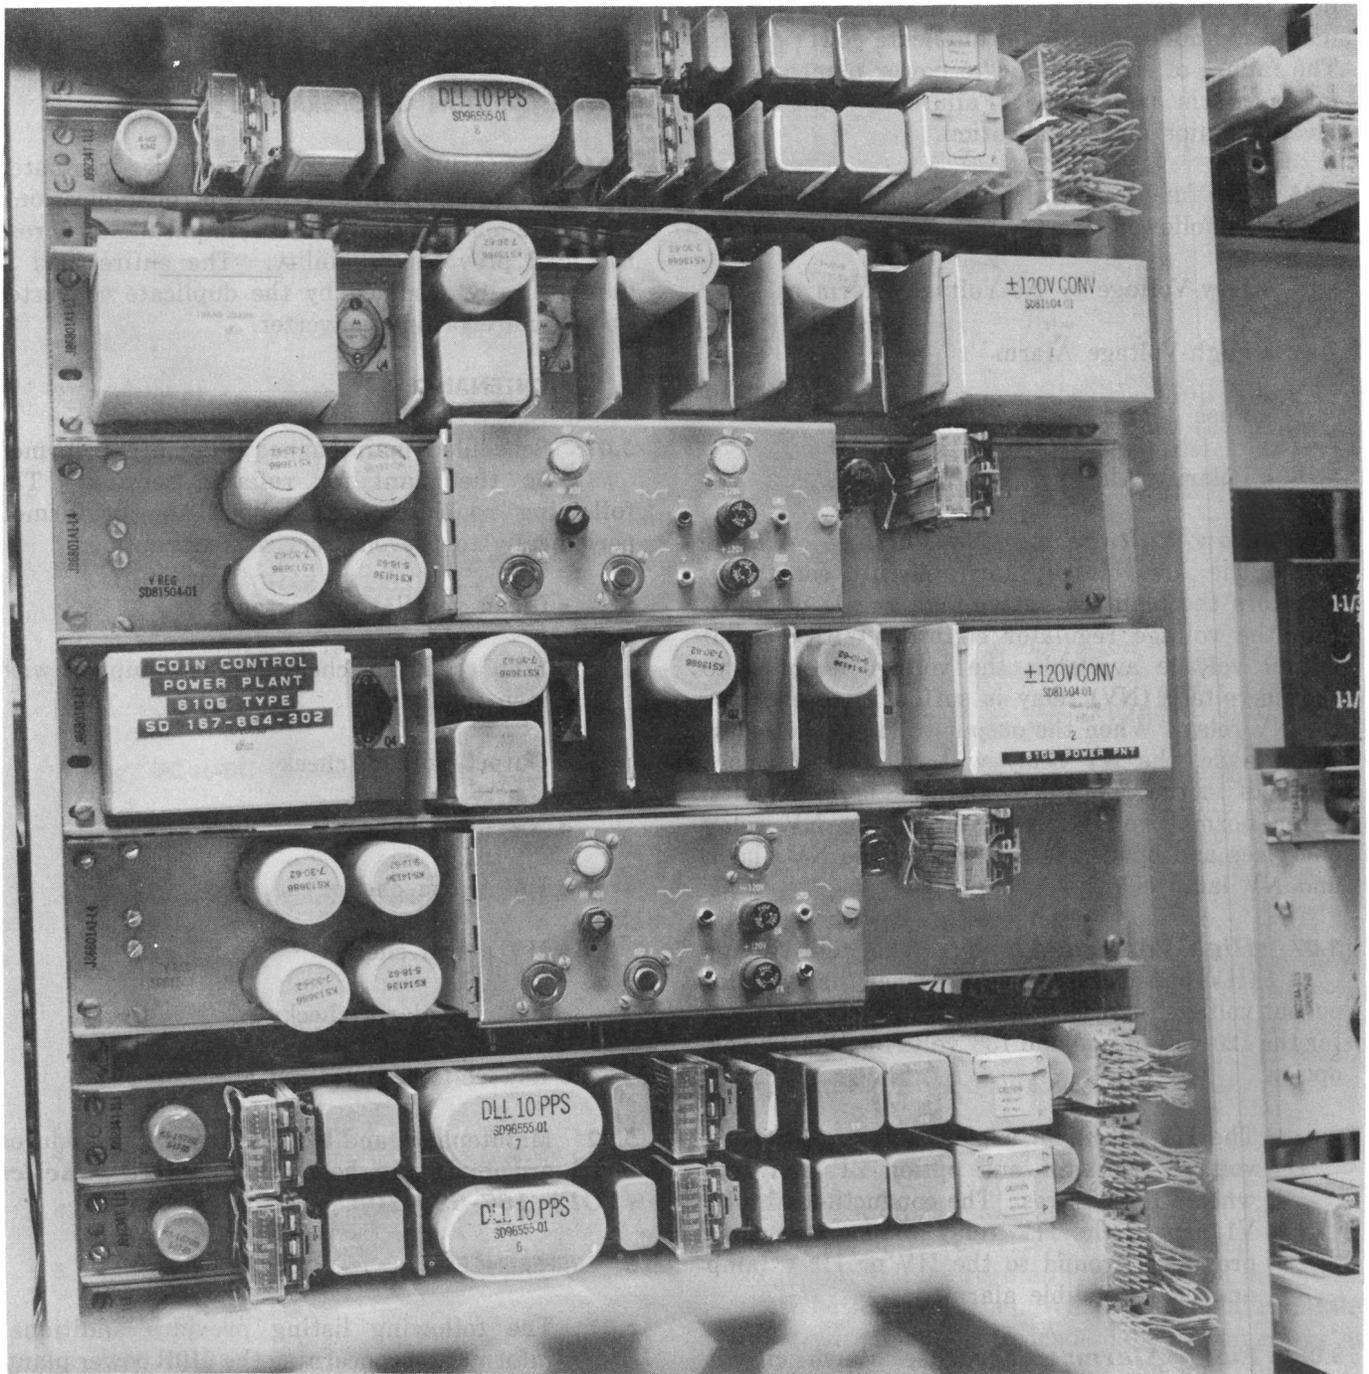

Fig. 1—610B Power Plant—Front View
| 4. DESCRIPTION OF OPERATION | 4 | 1.04 The 610B power plant (Fig. 1) consists of a dc-to-dc converter, either a step regulator or output voltage regulator, alarms and an optional distribution fuse panel. Where additional reliability is required, duplicate load-sharing converters are paralleled across the load. Should one of the duplicate converters fail, the other converter would automatically assume the load provided the total load does not exceed the maximum capacity of either converter. There is a maximum of two converters in a 610B power plant configuration. The number of power plants required in a given |
2.02 The J86801A-()L1 converter (Fig. 1) provides a positive and negative 120-volt at 0.50 ampere output when equipped with a J86801A-()L6 step regulator and a positive and negative 120-volt at 0.75 ampere output when equipped with a J86801A-()L4 voltage regulator. The J86801B-()L1 converter provides a positive and negative 130-volt at 0.75 ampere output when equipped with a J86801B-()L2 voltage regulator.